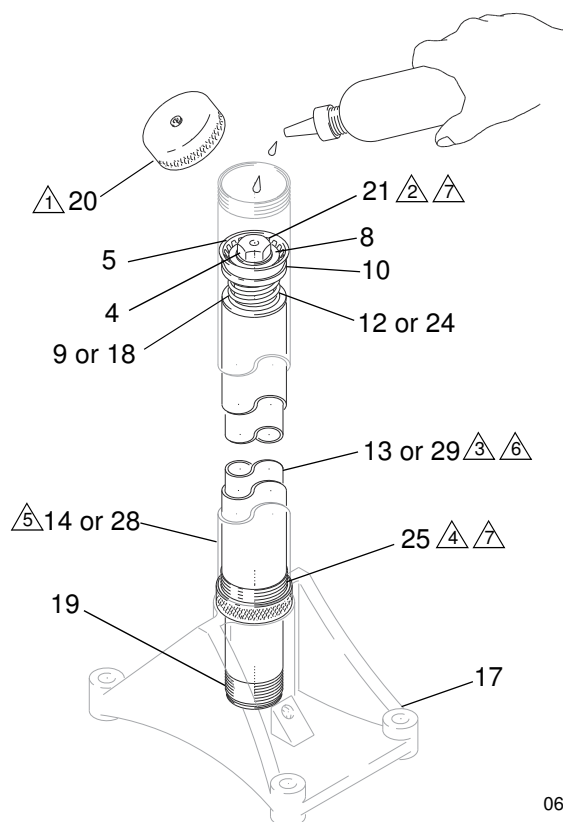

FIG. 6
Every two to six weeks, take the cap (20) off the riser tube (14 or 28) and put a few drops of light, high grade motor oil on the inside surface of the tube to lubricate the leather packing (10). See FIG. 6. When replacing the cap, torque to 20-40 ft-lb (37-54 N•m).
To replace the leather cup packings (10), screw the bearing housing (25) out of the riser tube (14 or 28) and slide the tube up off the piston (11). See FIG. 6. Screw the piston retainer capscrew (21) out of the piston body and remove the parts. Inspect parts for wear and damage and replace as necessary.
To replace the guide tube gasket (19), screw the guide tube (13 or 29) out of the elevator base (17). Take the gasket out. See FIG. 6. Be careful not to damage the outside bearing surface of the guide tube. Put a new gasket into the base. Put PTFE tape on the threads of the guide tube and screw it into the base. Torque to 90-130 ft-lb (122-175 N·m).